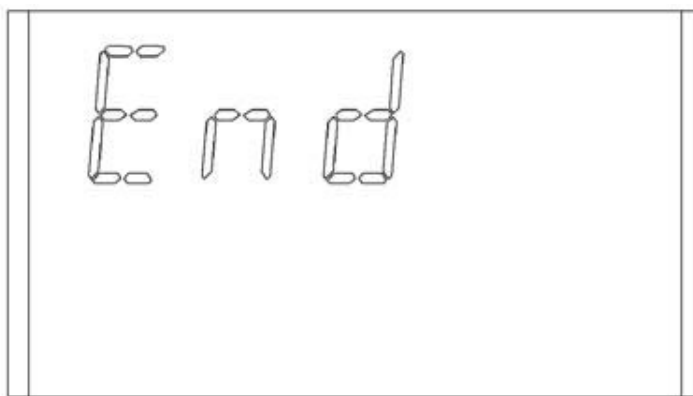

Fig. 28 Calibration End Display
- (11) Turn ON the gas flow by turning the flow controller knob.
(12) After the 30 second countdown:
- b) Once the gas value on the display is stable, the alternating display stops. If the calibration is successful, the display will show END for approximately two seconds. (Fig. 28).
(13) Turn OFF the gas flow by turning the knob on the flow controller.